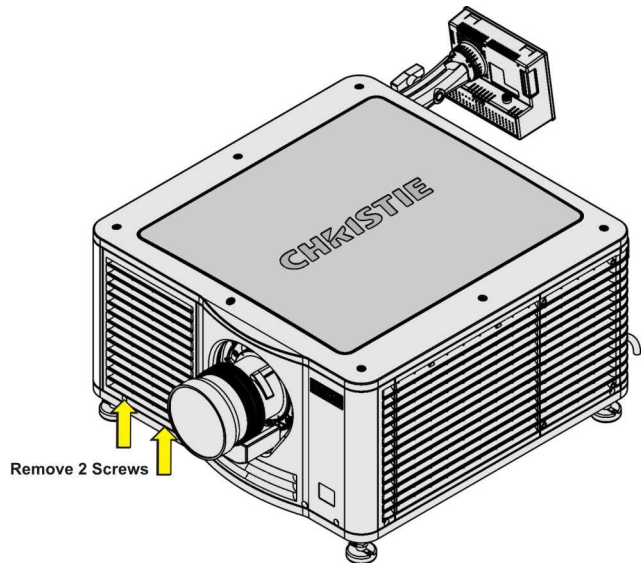

Figure 4-3 Remove Light Engine Air Filter
1. Loosen the two captive screws along the bottom of the filter cover. (**Figure 4-3**)